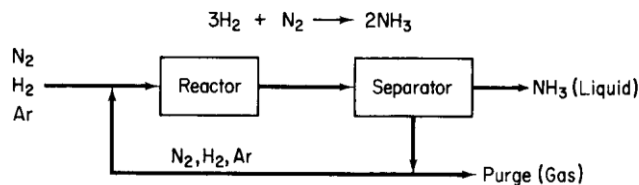

Figure SAT12.4P1
10. In the famous Haber process (Figure SAT12.4P1) to manufacture ammonia, the reaction is carried out at pressures of 800 to 1000 atm and at 500 to  $600^\circ C$  using a suitable catalyst. Only a small fraction of the material entering the reactor reacts on one pass, so recycle is needed. Also, because the nitrogen is obtained from the air, it contains almost 1% rare gases (chiefly argon) that do not react. The rare gases would continue to build up in the recycle until their effect on the reaction equilibrium would become adverse. Therefore, a small purge stream is used.